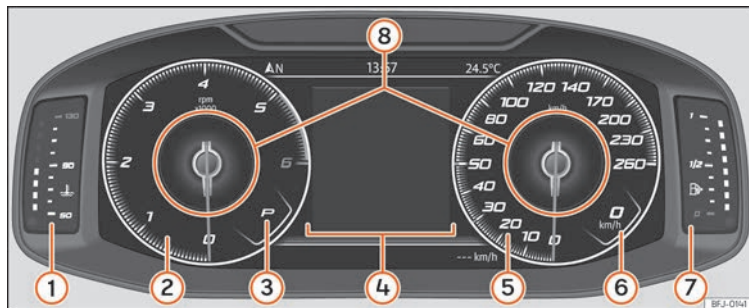

Fig.75 SEAT Digital Cockpit on the instrument panel (classic view).
In *Classic View* and *Semicircular watches* it is possible to customise the information displayed under **Information Profiles** »» **Fig.75** ⑧.
»» Fig. 75.